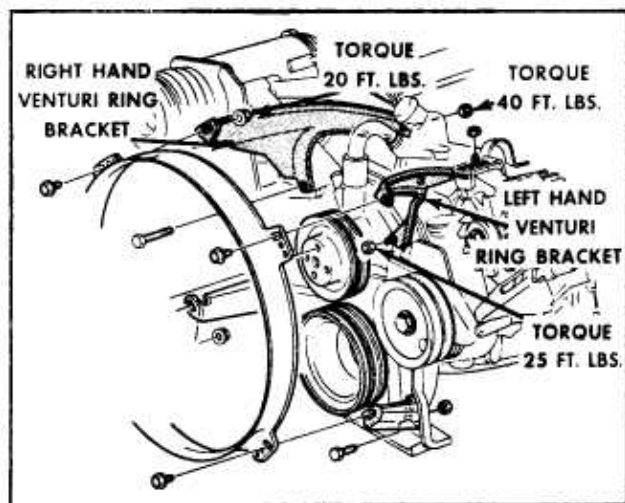

Figure 8—Upper Venturi Ring Brackets
4. Remove both upper venturi ring braces on vehicles with air conditioning as shown on Figure 8. Vehicles without air conditioning require removal of L.H. upper venturi ring only.
14. Install venturi ring brace(s). See Figure 8.